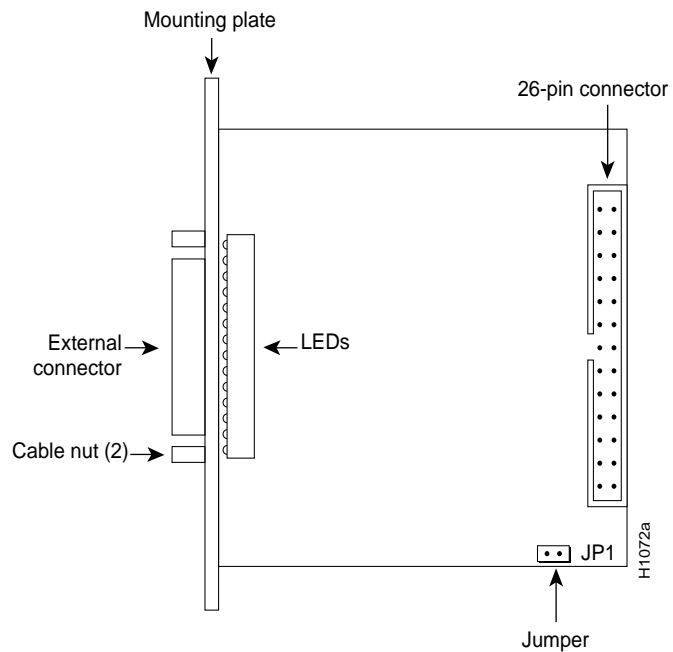

Figure A-6 HD V.35 Applique—Bottom View
The HD V.35 applique has only one jumper (JP1), which selects Serial Clock Transmit (SCT) (to the DTE) or Serial Clock Transmit External (SCTE) (from the DTE) as the timing source for Signal Detect (SD) when the applique is in DCE mode. The default is SCTE (for DTE), which is selected when the JP1 jumper is in. To select SCT (for DCE), remove the jumper. The cable used determines the mode of the applique. The HD V.35 applique is illustrated in Figure A-6.